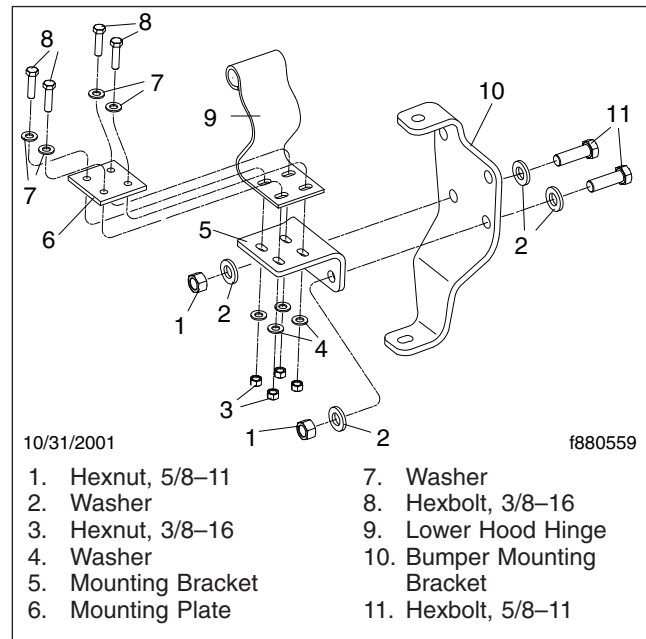

Fig. 6, Hood Hinge Installation (vehicles with an engine manufactured through 2006)
13. If it is necessary to remove the hood hinges, refer to Fig. 6.